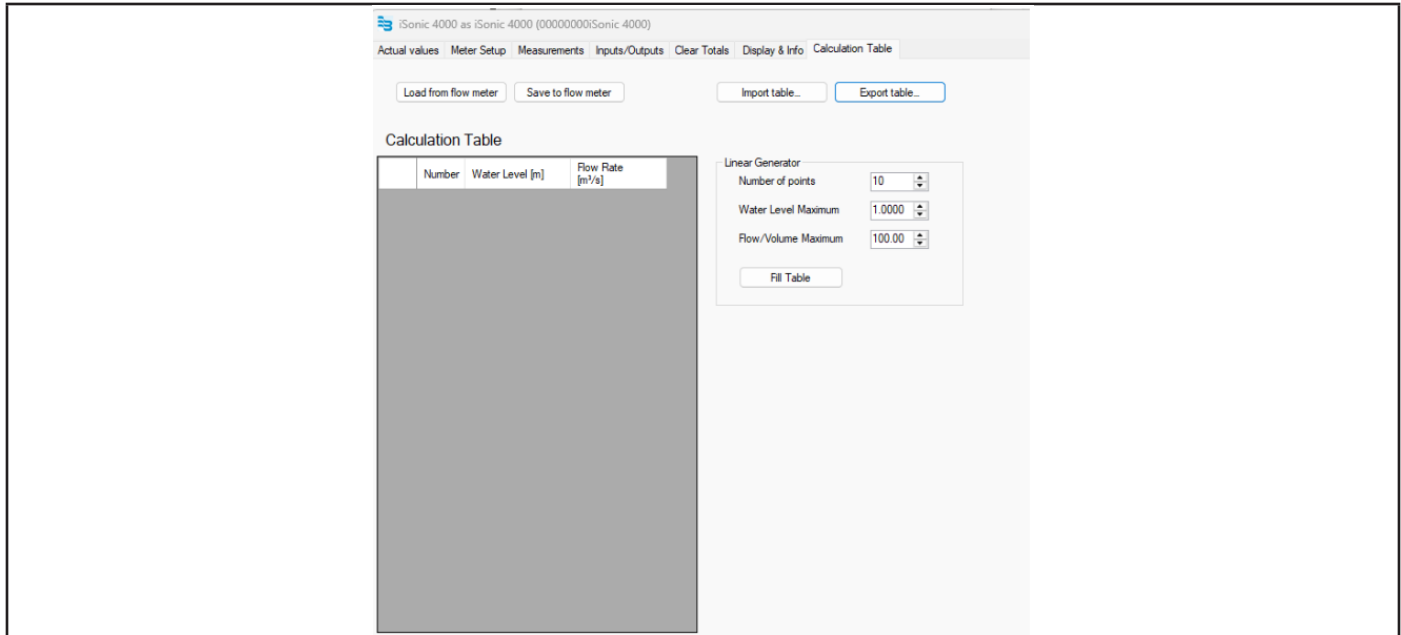

Figure 4: Setting the linear generator parameters
2. Go to the *Calculation Table* tab. See Figure 4.